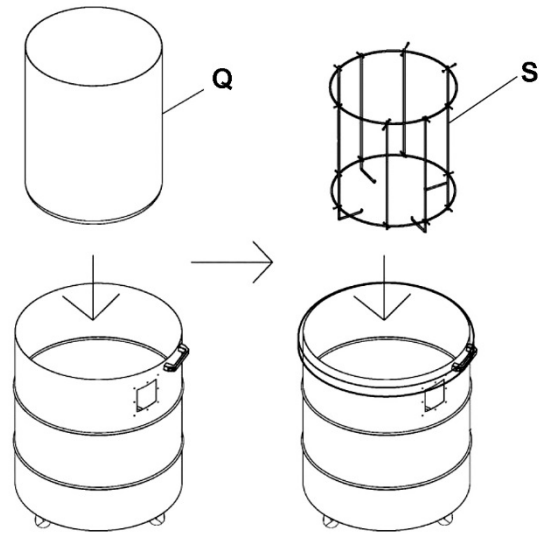

Figure 14
20. Place drum collection bag (Q) into drum with its top edge wrapped around top edge of drum. Place bag frame (S) inside bag and press down all the way. See Figure 14.